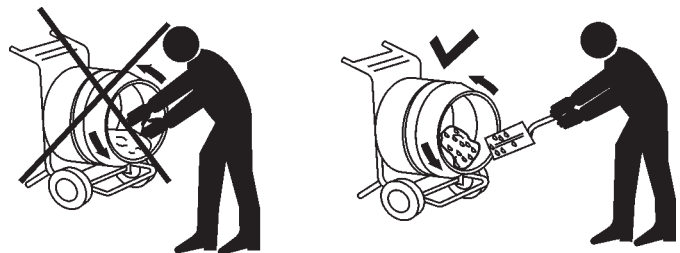

Figure 19. Mixing Drum (Placing Cement Mix)
6. The drum should be rotating allowing the mixing process to begin. Use a shovel (Figure 19) to place the cement mix inside the drum, add water as required. Be careful to only place the *tip* of the shovel inside the drum. Placing the shovel all the way inside the drum will cause the shovel to strike the blades. This condition will make the shovel rotate, and could cause injury to personnel.